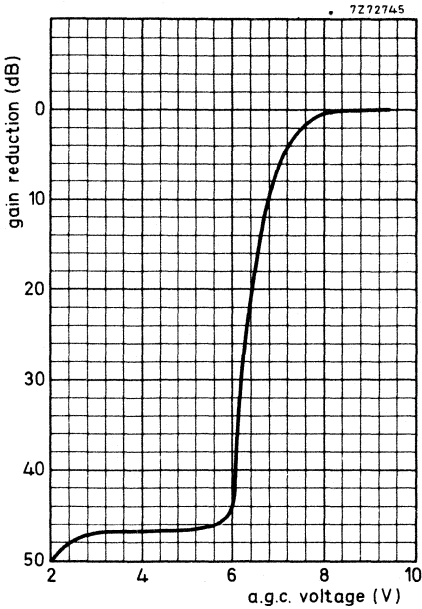

Fig. 4 A.G.C. voltage characteristic, channel E2; typical curve.
A.G.C. voltage (Figs 4, 5 and 6)